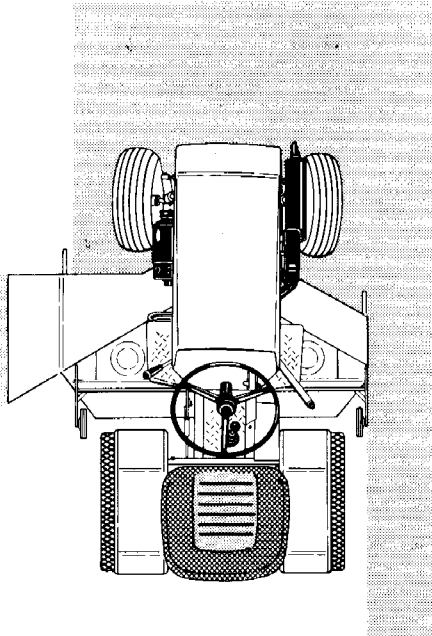
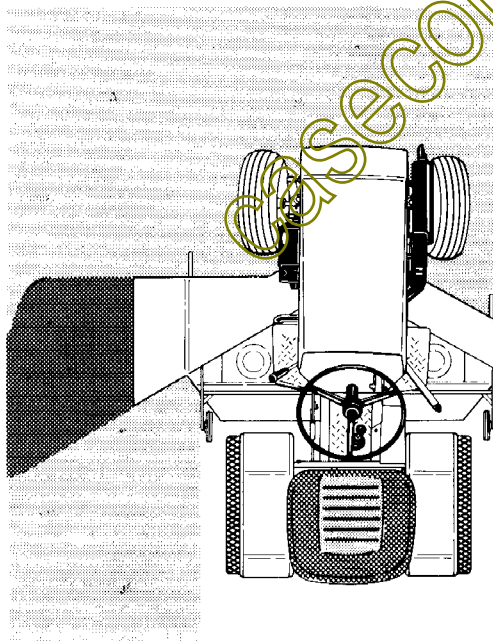

FIGURE 2
FIGURE 3
4. Figures 2 and 3 illustrate two systems for mowing. If the grass is high or heavy, always mow to throw the clippings away from the uncut area. Figure 2. If the grass is light and more thorough mulching is desired, discharge the clippings toward the center of the uncut area, Figure 3. When mowing in this manner, a final strip of mulched clippings about three to four feet wide will remain near the center of the lawn. This can be easily raked up to leave a well groomed appearance.